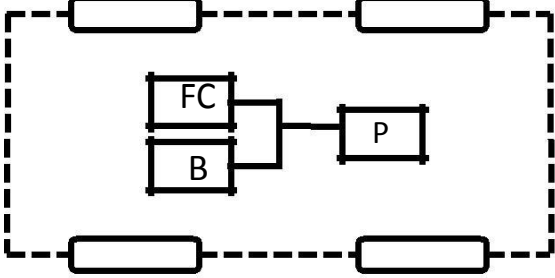

Figure 4c: EV configuration with battery and fuel cell sources [1]
- **Configuration 3:** In this arrangement fuel cell is used, **Figure 4c**. The battery is an energy storage device, whereas the fuel cell is an energy generation device. The operation principle of fuel cells is a reverse process of electrolysis. In reverse and electrolysis, hydrogen and oxygen gases combine to form electricity and water. The hydrogen gas used by the fuel cell can be stored in an on-board tank whereas oxygen gas is extracted from air. Since fuel cell can offer high specific energy but cannot accept regenerative energy, it is preferable to combine it with battery with high specific power and high-energy receptivity.